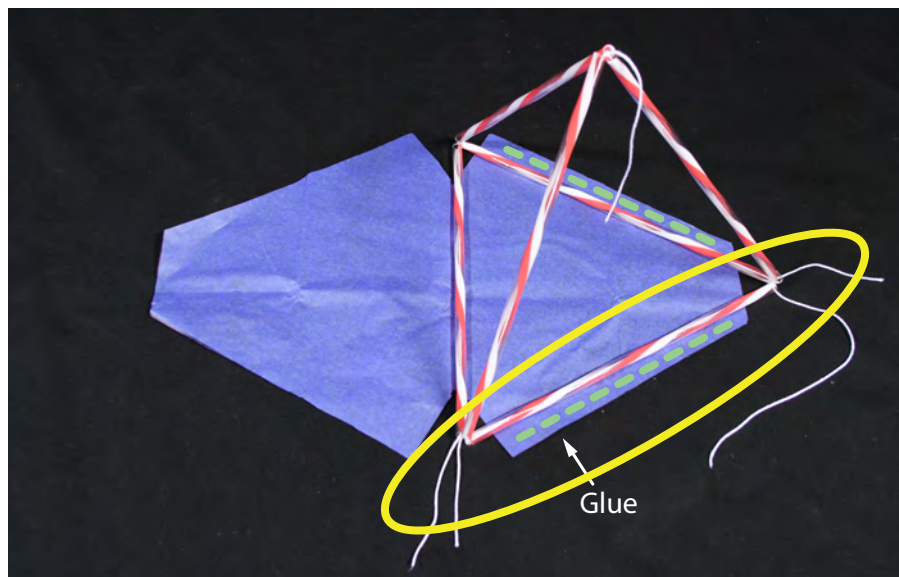

Fig. 13 Placement of tetrahedron on tissue paper template
2. Place one side of the tetrahedron in the middle of the template so there is enough tissue paper to wrap around the other two sides. See picture below (figure 13):
3. Now spread the glue along the flaps and fold the flaps over the straws. (See yellow circle in figure 13). Make sure the tissue is wrapped tightly around the straws.